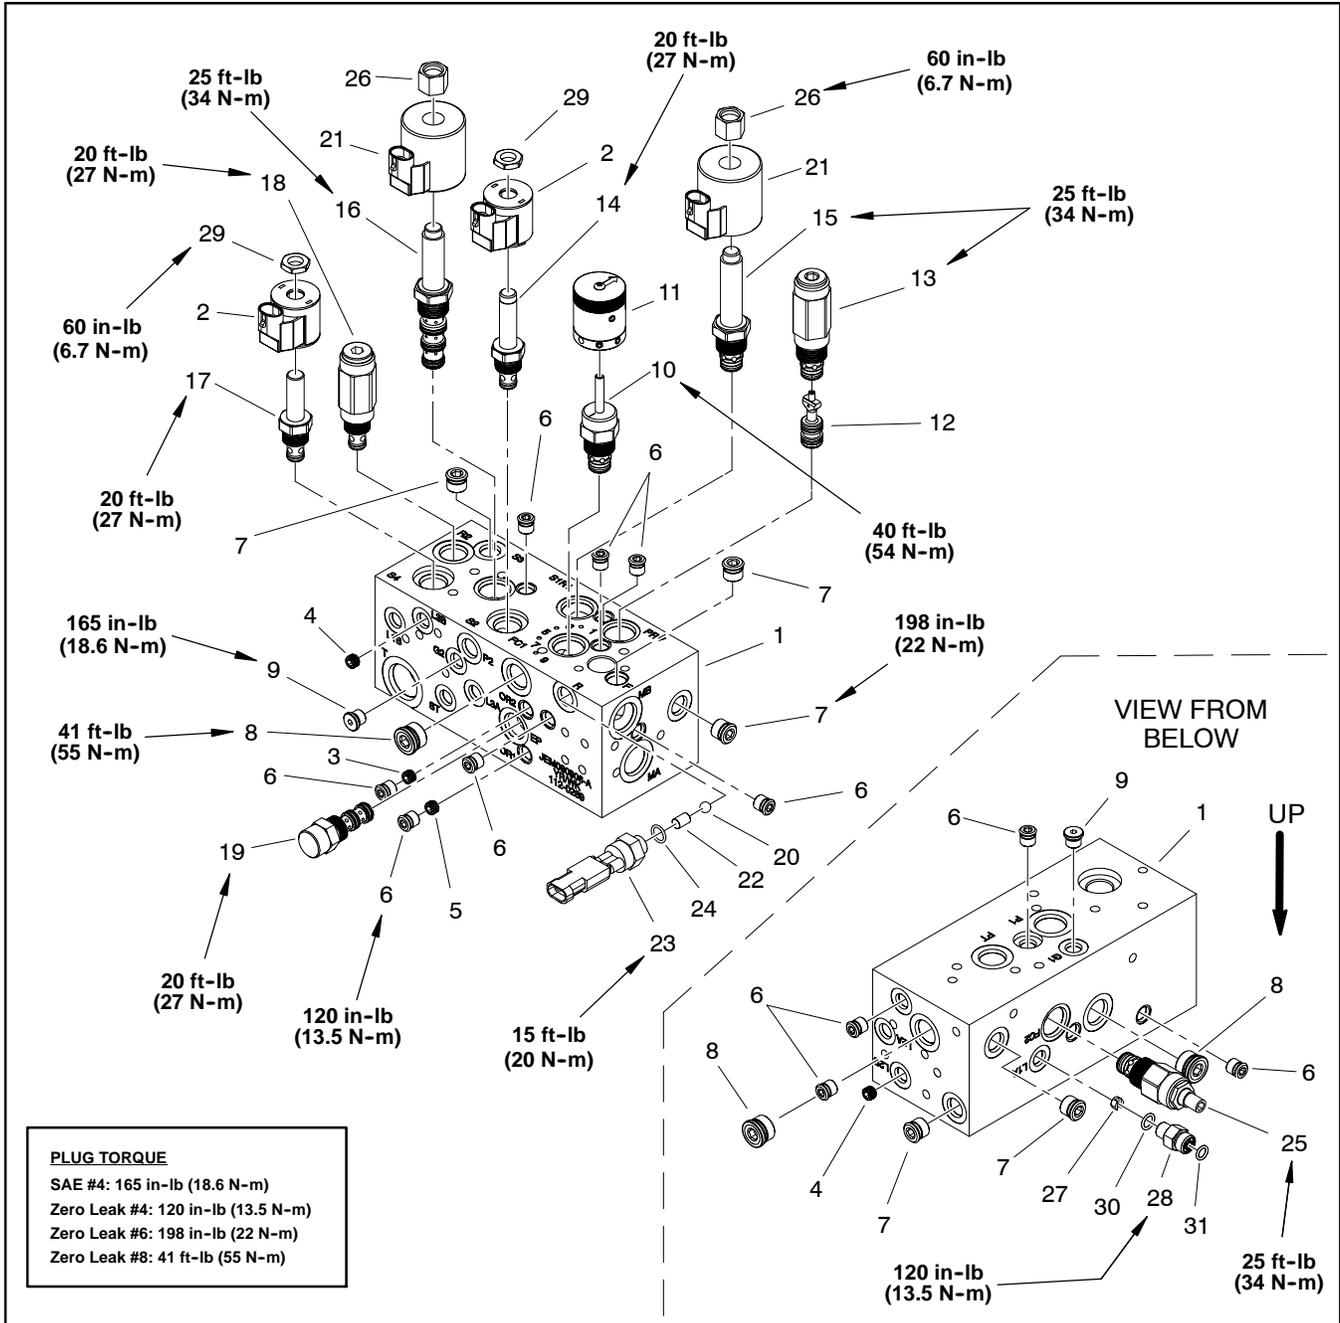

Figure 59
NOTE: The hydraulic manifold shown in Figure 59 uses several zero leak plugs. These plugs have a tapered sealing surface on the plug head that is designed to resist vibration induced plug loosening. The zero leak plugs also have an O-ring to provide a secondary seal. If zero leak plug removal is necessary, lightly rap the plug head using a punch and hammer before using an allen wrench to remove the plug: the impact will allow plug removal with less chance of damage to the socket head of the plug. When installing plugs into the manifold, torque plugs to the values identified in Figure 59.
C. Torque cartridge valve using a deep well socket to specification shown in Figure 59.